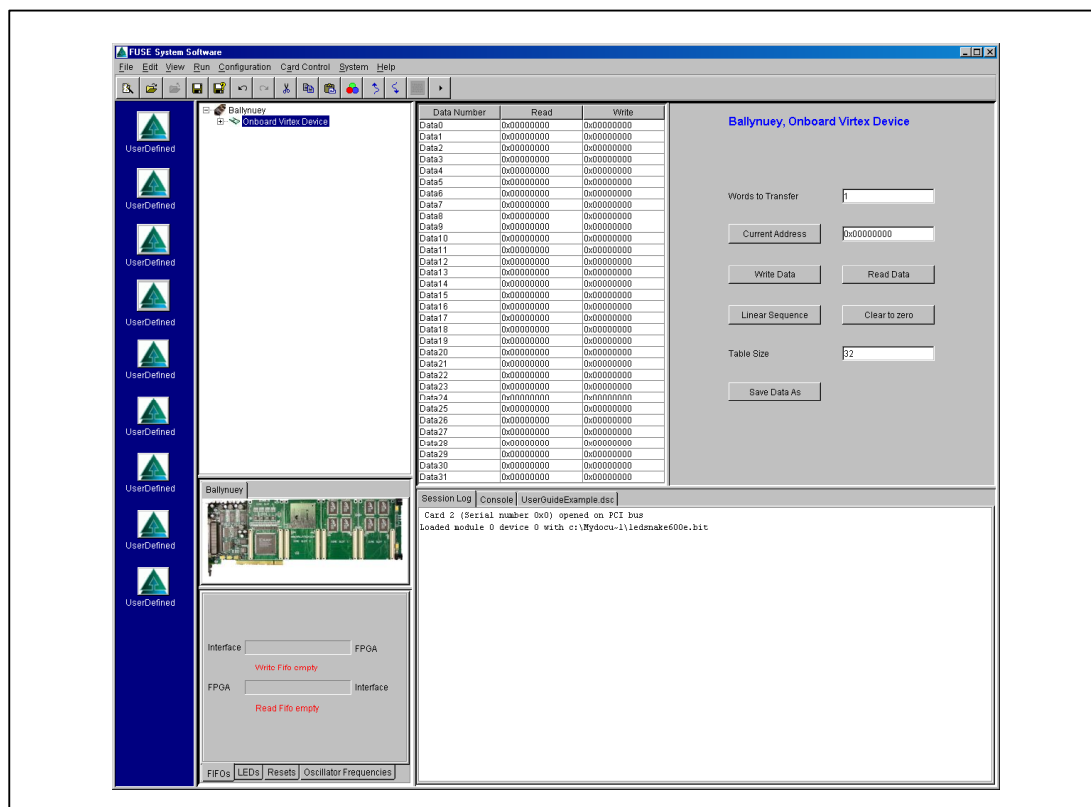

Figure 14: Session log after DIMEScript file has been run
2. To run the DIMEScript file click on the **Run** menu and select **Run Script File**. The script file is automatically saved. Once the file has been run, the file information is written to the session log as shown in Figure 14.